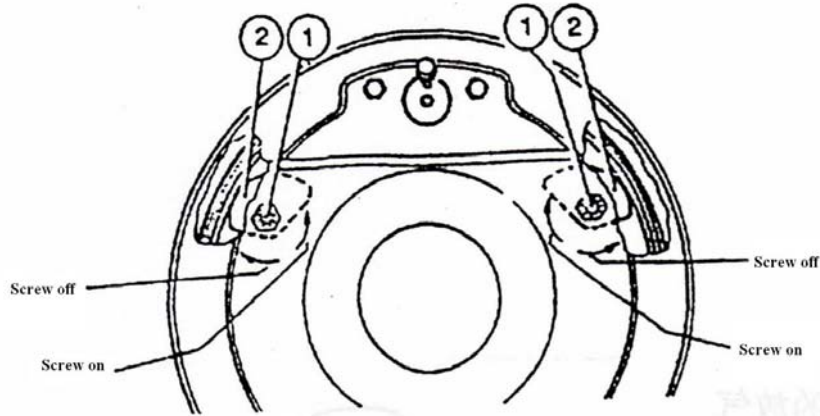

Fig. 56
3. Manually rotate the wheels and adjust with 22mm wrench at the shown “Tightening” direction (See Fig. 56) till the wheels have been locked. (Here, both brake shoes contact with brake drum).
4. Unscrew the adjusting bolt (Fig. 56/1) by about 3° at the “Release” direction; in this way, the clearance between both brake shoes and brake drum will be released to about 0.75mm.
5. Adjust the other brake; take notice that the rotating direction of adjusting bolt (Fig. 56/1) is reverse.